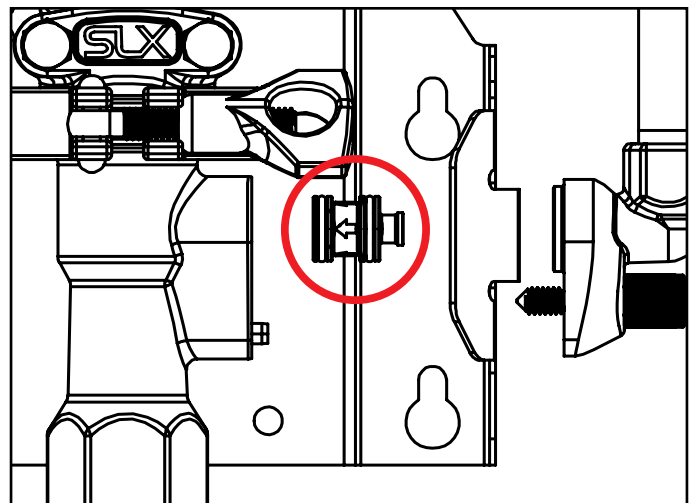

Fig. 9.3: SLX Check Valve (correct orientation)
5. The check valve will be seated either inside of the elbow or the foamer body. Grab it and pull to remove. [Fig 9.3]